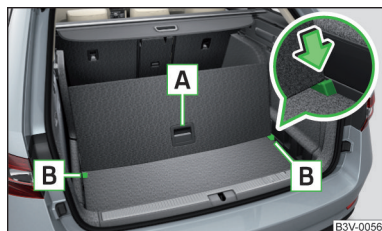

Fig. 148
- Raise the rear of the variable loading floor by the handle **A** » Fig. 148.